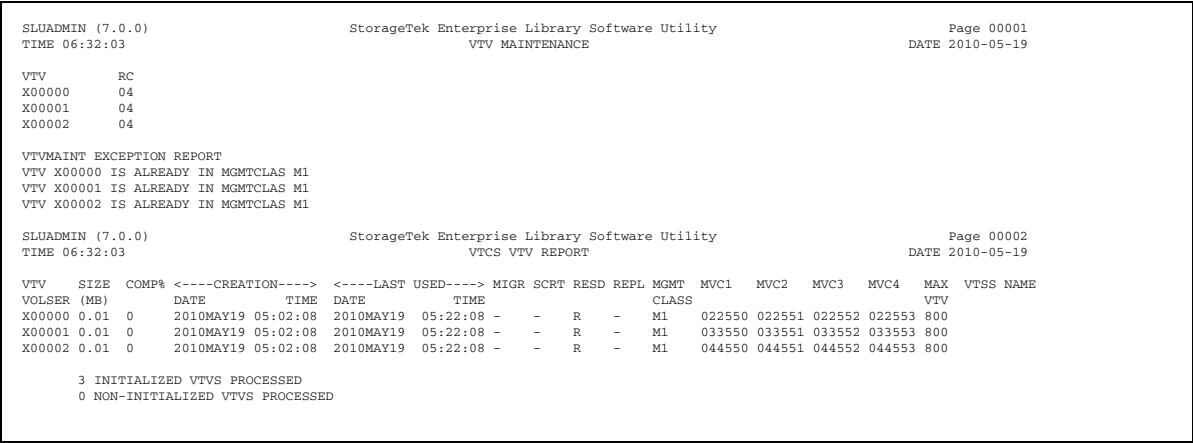

FIGURE 3-213 VTVMaint Report
FIGURE 3-213 shows an example of a VTVMaint report for the following command:
- As shown in FIGURE 3-213, the VTVMaint report shows: